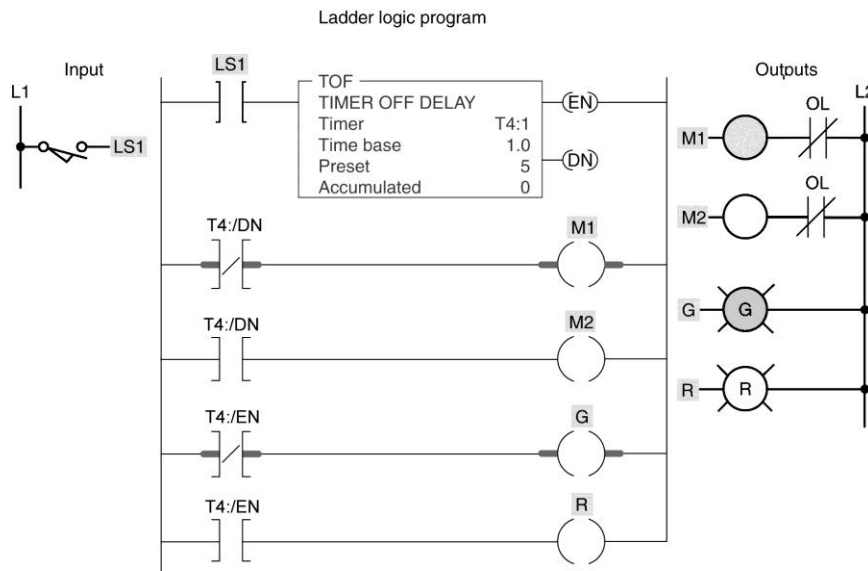

Figure 7-24 Off-delay timer program for assignment 8.
8) The program of Figure 7-24 is described in the text and uses an off-delay timer containing both instantaneous and timed contacts. Prepare an I/O connection diagram and ladder logic program for the process. Use addresses that apply to your PLC. Enter the program into the PLC, and prove its operation.